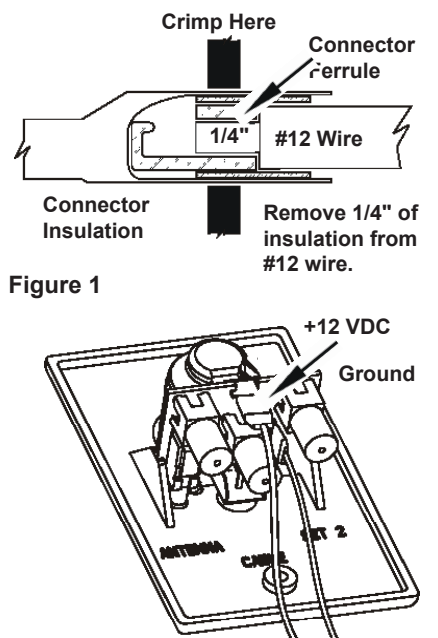
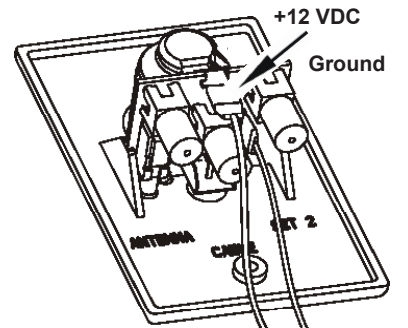

Figure 1
Figure 2
STEP 3. Make +12 volt connection to wall plate/power supply Figure 2. Install terminals on wires from +12VDC source as shown in Figure 1. Crimp terminals with Craftsman type 4 crimping tool or equivalent. Push wires onto tabs on terminal board as shown in Figure 2. If in doubt as to the polarity of the wires, connect them temporarily to tabs on circuit board and press switch on front of outlet. If light comes on, polarity is correct. See Figure 3.